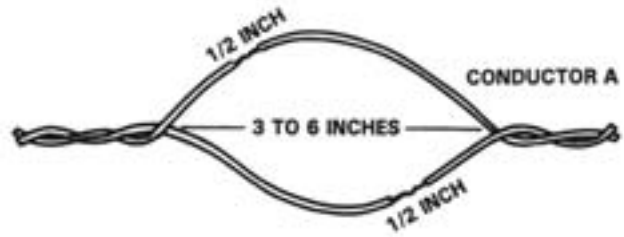

Figure 6-75. Connection of Other Telephones to the Wire Loop.
- Connect the other telephones to the wire loop. Go to each position and pick up the wire. Cut the insulation on one conductor without cutting the wire strands. Use the TL-13-A pliers or TL-29 knife. Grasp the insulation on either side of the cut and pull the insulation apart to expose 1/2 inch of wire strands on each conductor. See figure. 6-75.